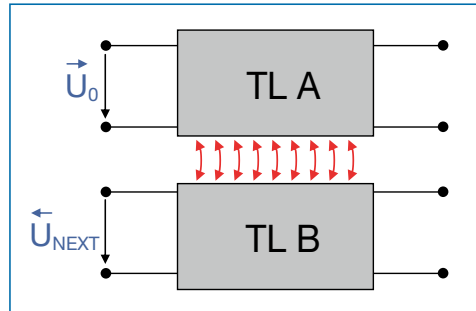

Fig. 9
- Near End Crosstalk (NEXT, see Fig. 9)